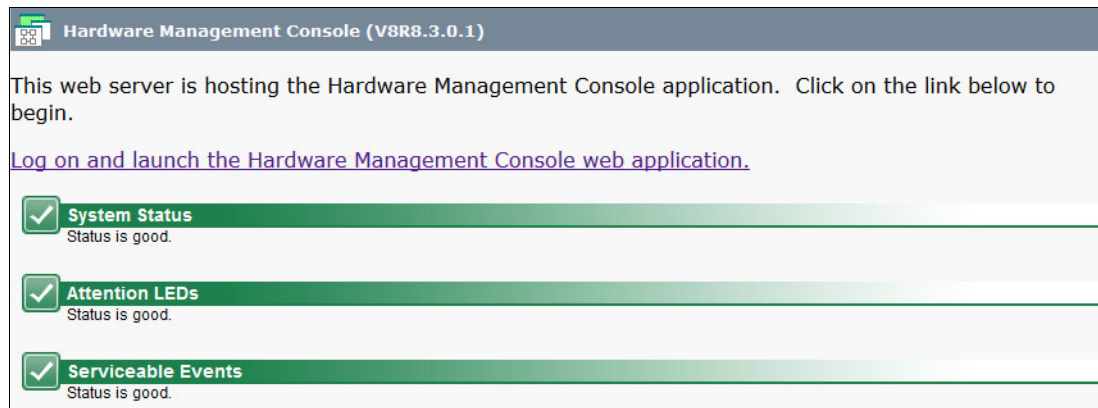

Figure 8-4 Service Management Console application
- Click **Log on and launch the Hardware Management Console web application** to open the login window as shown in Figure 8-4 and log in. The default user ID is customer and the default password is cust0mer.